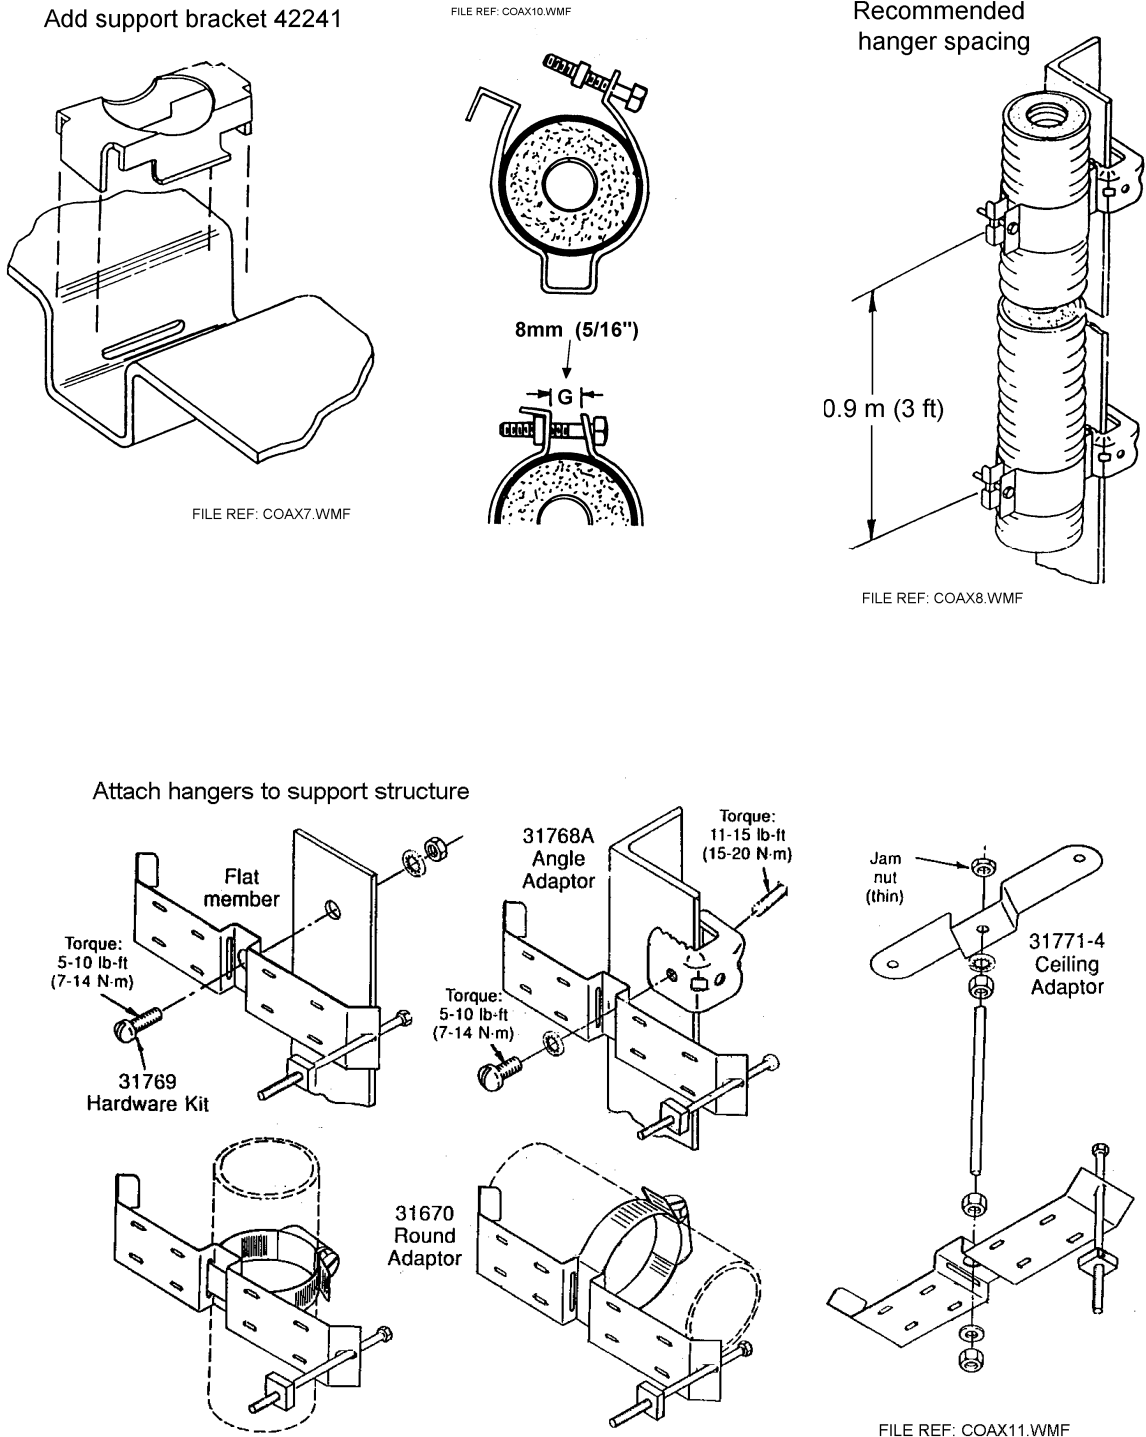

Figure 1.29 - Deck Gland Details
- 4.4 The cable should be installed and secured in position (using the waveguide supports shown in Figure 1.29) as far as is practicable before the lower (Transceiver Unit) connector is fitted to the cable. The precautions given in sub-para. 4.1 above must be observed if a bend is required adjacent to the Transceiver Unit.
1. Cable Hangers are supplied (Andrew Hanger Kit Type 42396A-5) for supporting the cable along the cable run between the Scanner Unit and the Bulkhead Transceiver. Each kit contains 10 Hangers plus their associated Support Brackets (Andrew Type 42241). Normally, a hanger is attached to a cable tray, using suitable bolts, at a recommended spacing of 0.9 metres (3 feet). The support brackets must be fitted to the hangers to prevent distortion when the hanger is wrapped around the coax as shown in Figure 1.29.
2. Figure 1.29 also shows additional hardware (not supplied in the Installation Kit) which facilitate special mounting arrangements. If required, these are obtainable from Andrew Corporation.